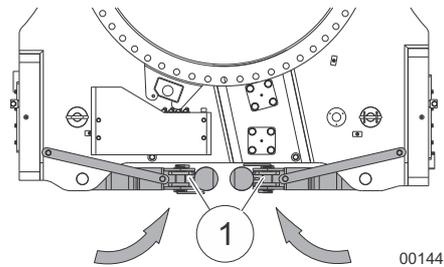

Fig. 161 Folding in the outrigger cylinders
| 12 | Fold in the outrigger cylinders (1) in Fig. 161 on the front and rear of the undercarriage and lock them in place. |